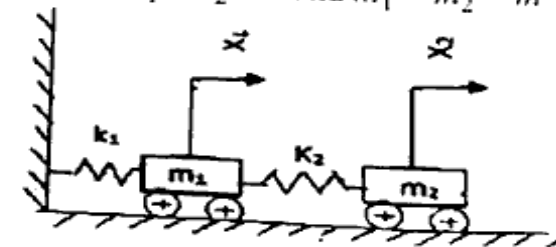

Figure 3 (चित्र 3)
- b) Find the natural frequencies and first two normal mode shapes of the system shown in Figure 3.